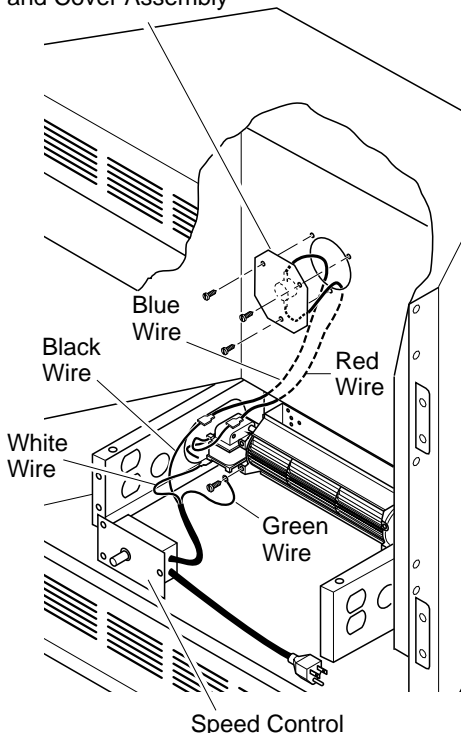

Figure 18 - Installing Switch and Cover Assembly, and Speed Control
2. Using screw provided, attach green ground wire from speed control cord to blower housing. Tighten screw securely (see Figure 18).
4. Remove the three screws (do not discard) and cover plate from center of firebox wrapper rear wall. Discard this cover plate (see Figure 18).
5. Mount the supplied thermostatic switch and cover assembly into firebox wrapper rear wall. Do this by feeding terminal ends of wire harness into the hole. Allow wires to fall to bottom of firebox cavity (see Figure 18).
6. Using three screws from step 7, attach switch and cover assembly to firebox wrapper rear wall. Tighten screws firmly (see Figure 18).
7. Firmly attach red wire from the thermostatic switch and cover assembly to either of the terminals on the blower motor (see Figure 18).
8. Firmly attach black wire from speed control cord to blue wire from thermostatic switch and cover assembly (see Figure 18).
9. Firmly attach white wire from speed control cord to remaining terminal on blower motor (see Figure 18).